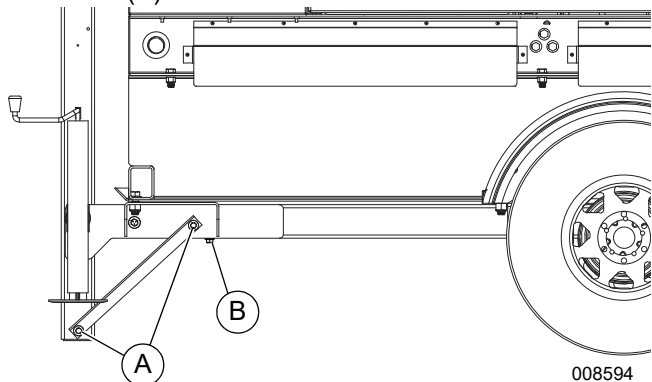

Figure 1-1. Lowering Trailer Tongue
2. See Figure 1-1 Remove the mounting hardware securing the tongue shipping brace to the trailer frame (A).